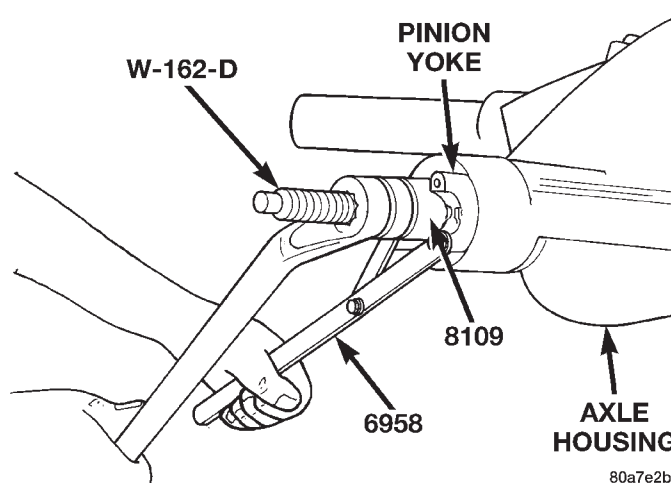

Fig. 9 Pinion Yoke Installation
(2) Install yoke on the pinion gear with Installer W-162-D, Cup 8109, and Holder 6958 (Fig. 9)).